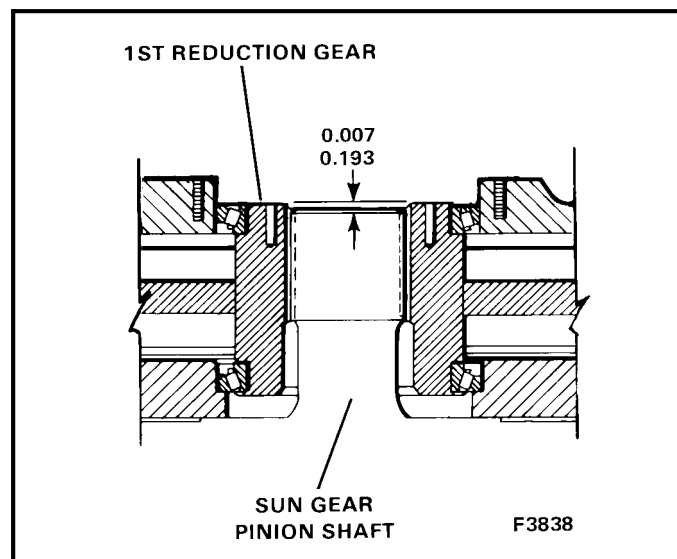

Figure 3-8. Measuring Gap
- H. Install a shim pack of a thickness equal to the average measurement determined in Step G plus 0.002 inch (0.0508 mm). Install capscrews (04), lockwashers (03 and 05) and nuts (02). Torque to 266 ft-lbs (360.6 N.m)
16. Install coupling (01) on input shaft (25). The coupling hub should be flush with the end of the input shaft.
17. Measure the distance from the hub of the first reduction gear to the top of the sun gear pinion shaft, it should be between 0.007 and 0.193 inch (0.178 and 4.90 mm) as shown in Figure 3-8.
7. With the transmission mounted on the revolving frame, check for clearance (see Figure 3-8). This is to assure that the internal components are not thrust upward due to resistance between the swing shaft and carrier spline. Preload can damage the ball bearing and thrust plate. Consult with your P&H service representative if the clearance is not obtained.